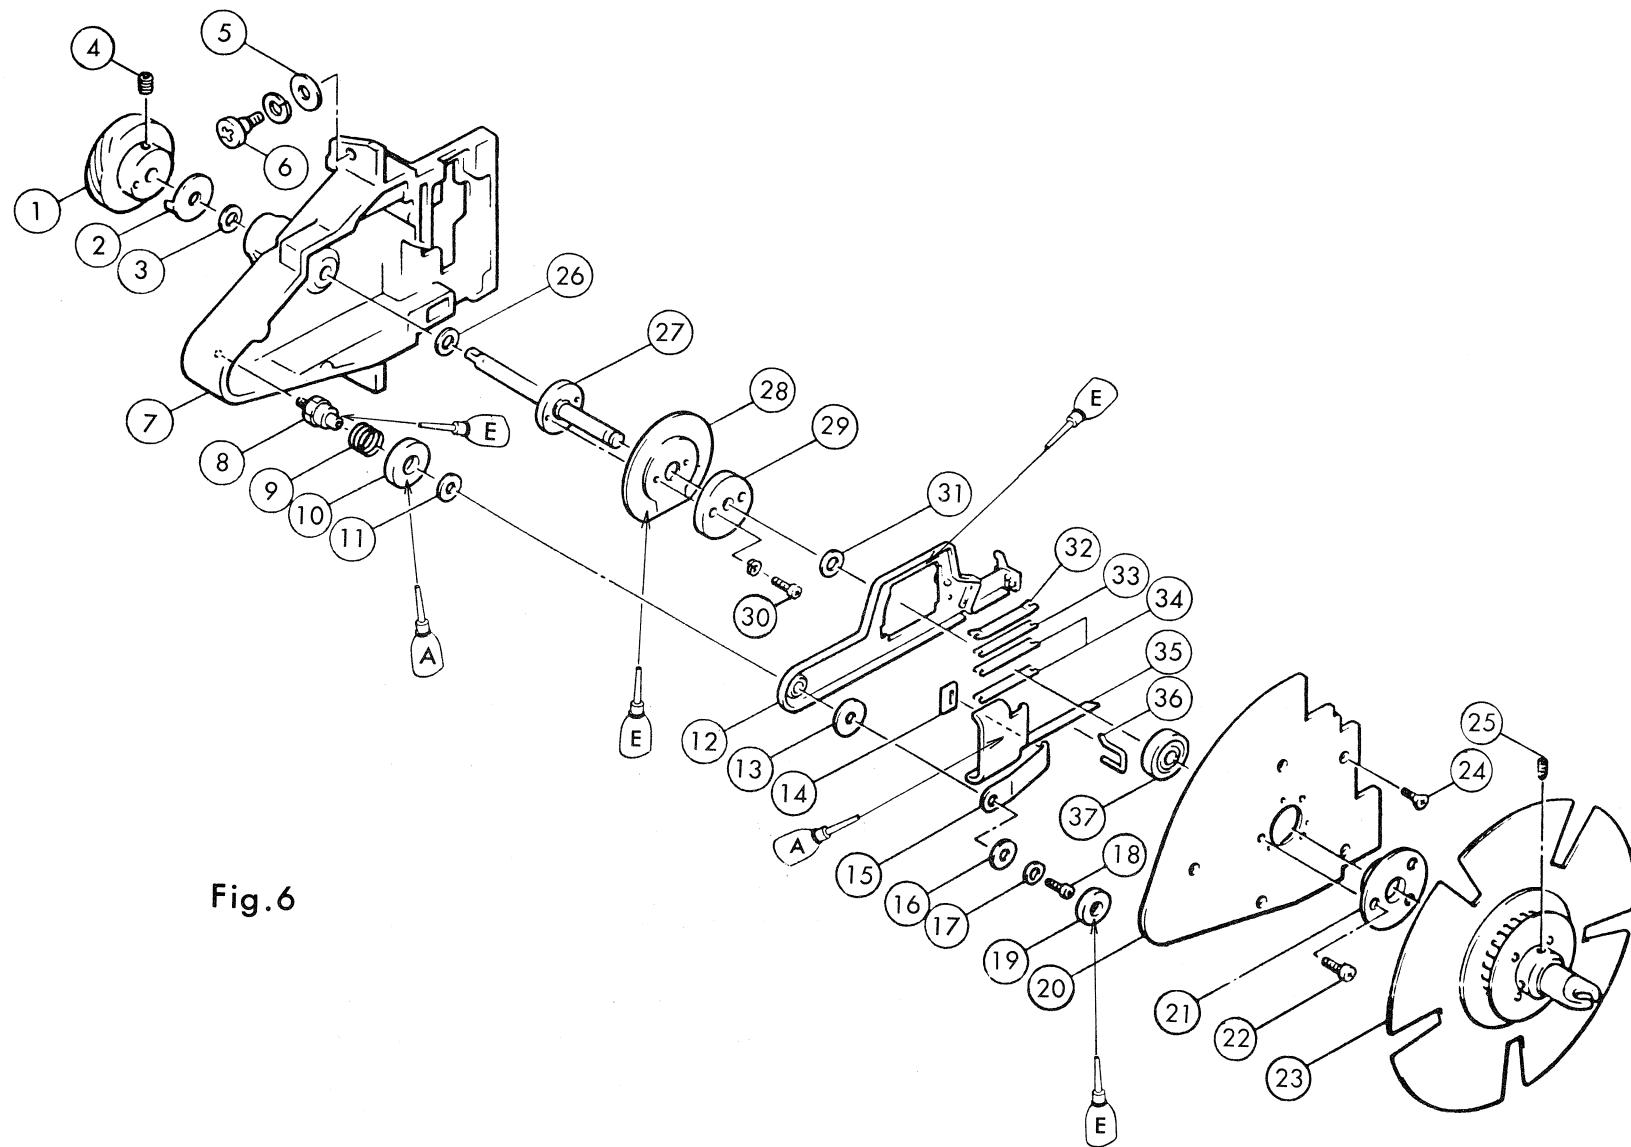
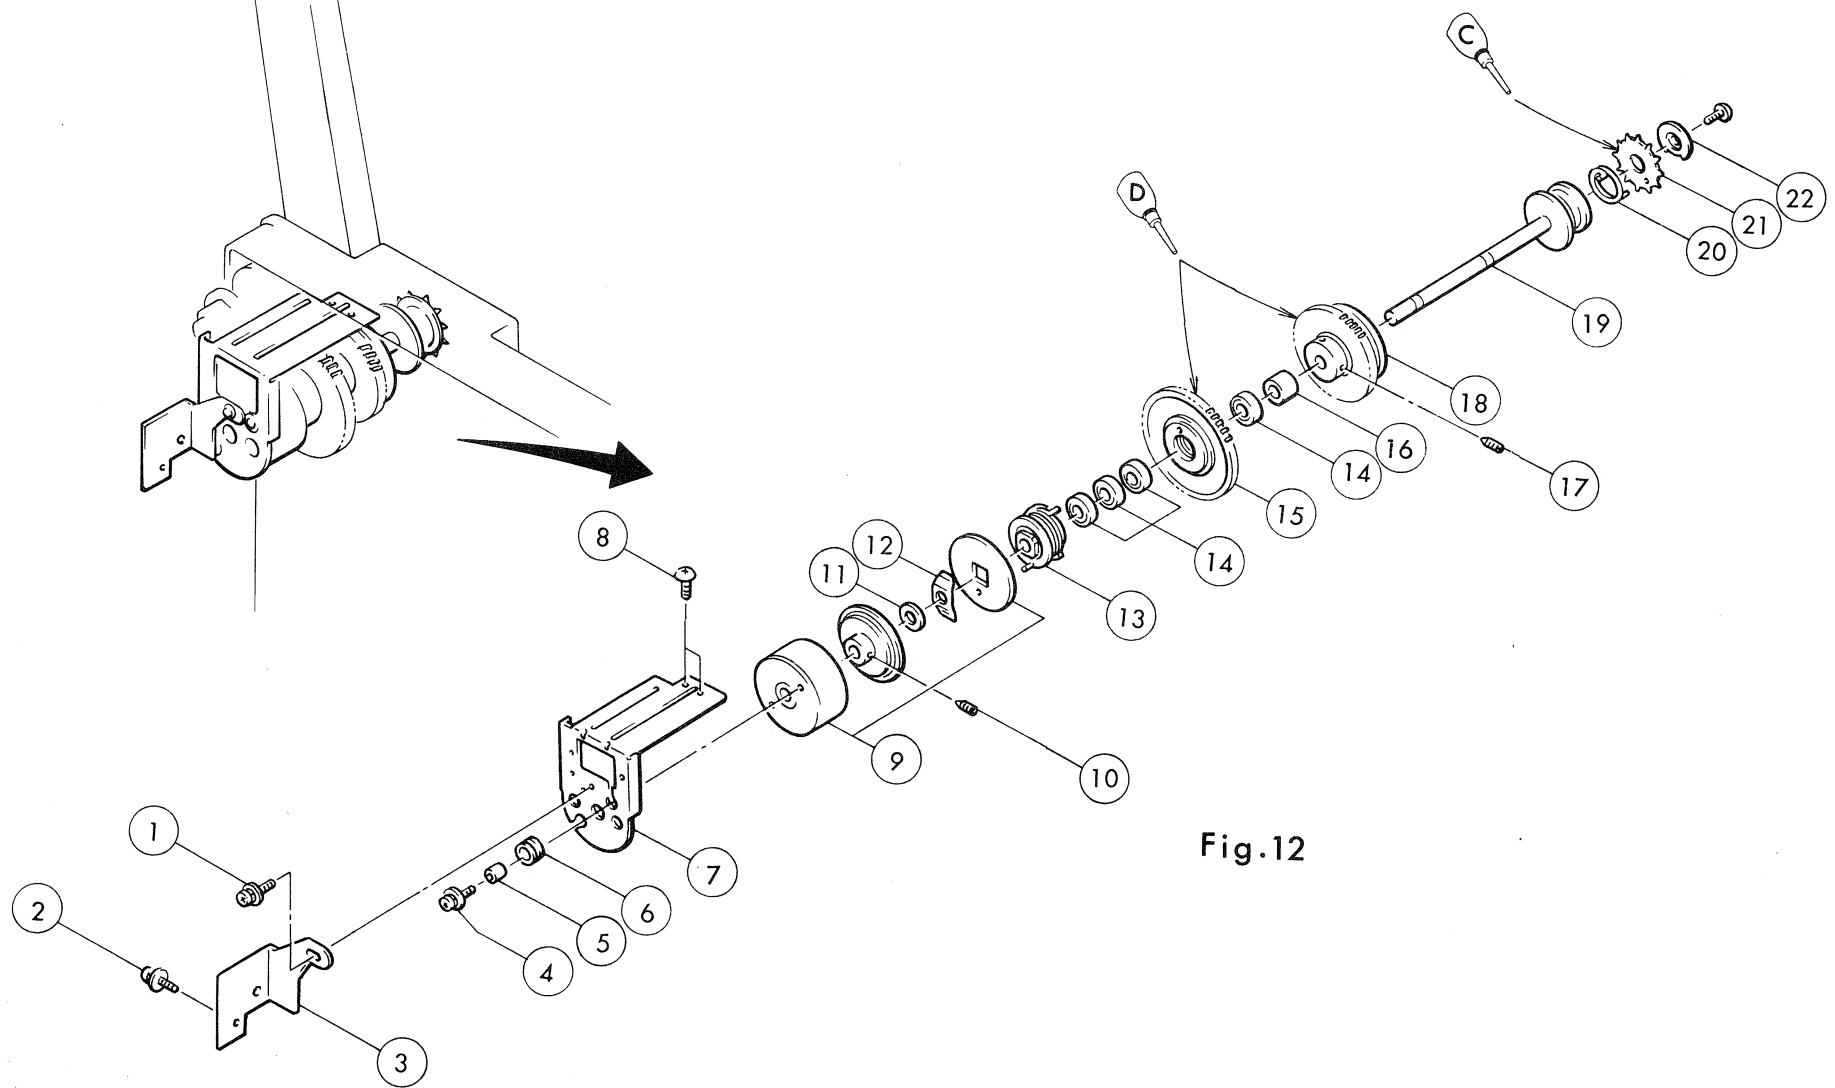

Fig.6
Fig.12
1. Unscrew ⑦ and ⑩, and remove ⑥ and ⑪ from the base main body.
2. Loosen ⑧ and ⑨, and pull out ⑫ ~ ⑯ from ⑤.
3. Remove the joint connecting ① and ④.
4. Unscrew ⑥ in Fig. 6, and remove ① from the base main body.
1. Check to see that ② has backlash with ⑬ in Fig. 12, and see to it that ⑯ in Fig. 6 does not interfere with other parts, etc.
2. Install ⑤ to ①, taking care that ⑯ and ⑰ do not get slackened.
3. In case the joint of ⑤ is not connected horizontally, loosen ⑨ and move ⑤, so that it is adjusted horizontally.
1. Loosen ⑯ to remove ⑬.
2. Unscrew ⑪ to remove ⑩, and then ⑭ to remove ⑯.
3. Unscrew ⑮, ⑯ ~ ⑯ and ⑰ ~ ⑰ to remove ⑫.
4. Carry out further disassembly referring to Fig. 6.
1. Unscrew ① and ② to remove ③.
2. Unscrew ④, ⑤, ⑥ and ⑧ to remove ⑦.
3. Pull out the coil side of ⑨, remove the cord and loosen ⑩ before pulling out ⑩ ~ ⑯.
4. Refer to Fig. 12 for further disassembly